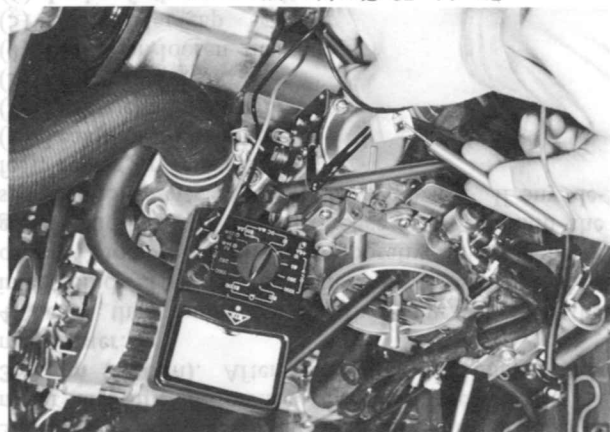

Fig. 1A-58 Checking idle switch (1)
2. If there is conduction between terminal (A) and (C) (Fig. 1A-59), and there is no conduction between terminal (A) and (B) when an external force is not applied to the idle switch lever (when the primary throttle valve is idle position) and if there is no con-